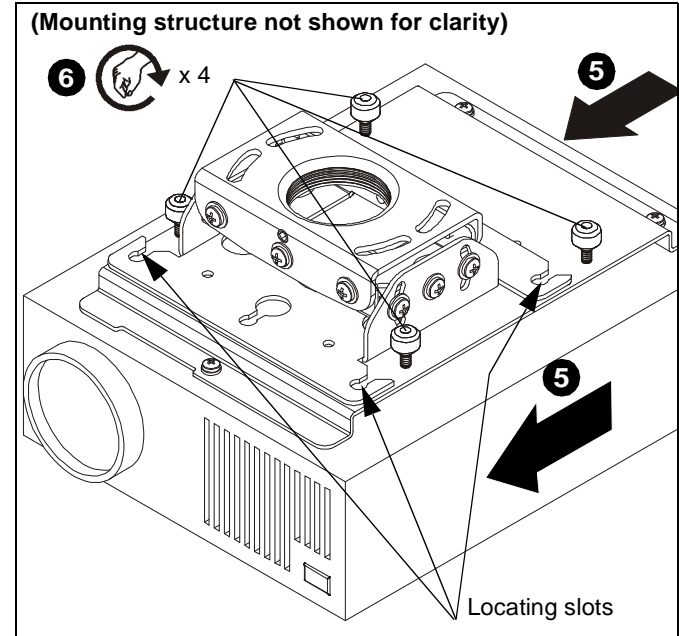

Figure 6
4. Align the thumb nuts on the interface bracket with the locating slots on the RPA projector mount. (See Figure 6)
5. Slide the interface bracket with attached projector to the limit of the locating slots. (See Figure 6)